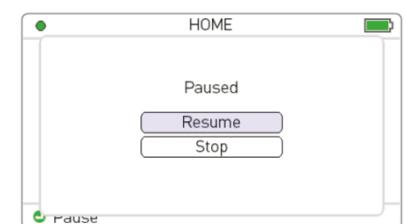

Figure 29. Paused
- To pause therapy, press . The message "paused" is shown, see Figure 29.